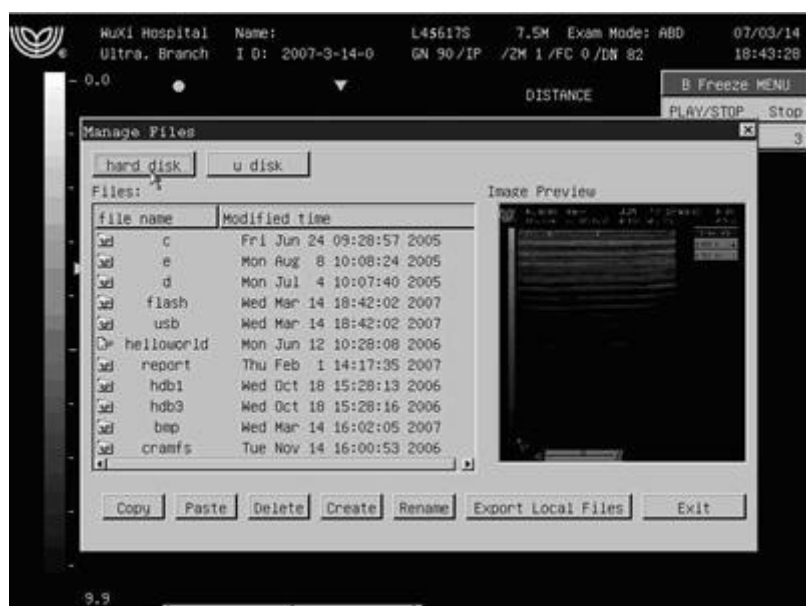

Fig. 12-12 Dialog box- Manage Files
5. A dialog box- “Manage Files” appears as Fig 12-12.